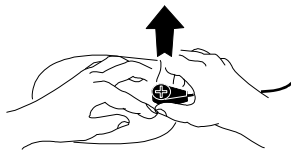

**Figure 5-5** Removing Therapy Electrodes from Skin
- 1 Slowly peel back the electrode from the edge, supporting the skin as shown in Figure 5-5.